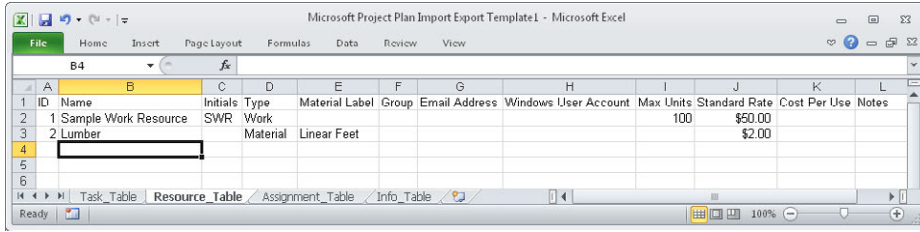

FIGURE 5-5 Fill in the cells for the type of resource you are creating, such as Material Label for a material resource.
5. Enter resource information into the appropriate cells, as shown in Figure 5-5, and then save the file when you're done.